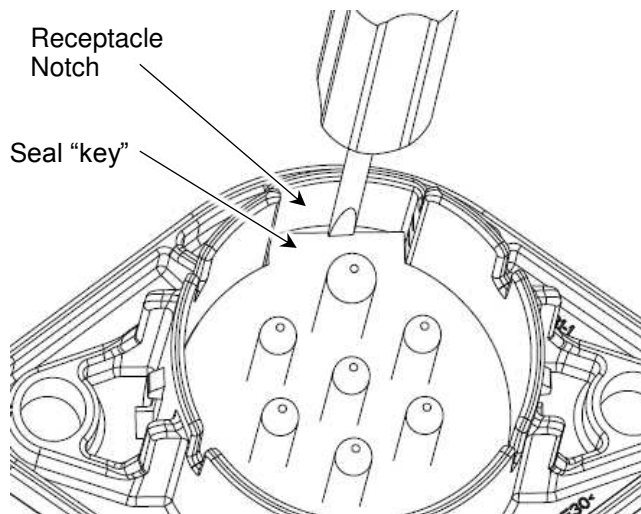

Figure 7
2. Use a small, flat bladed screwdriver to pry the seal away at the top of the receptacle. See Figure 7.